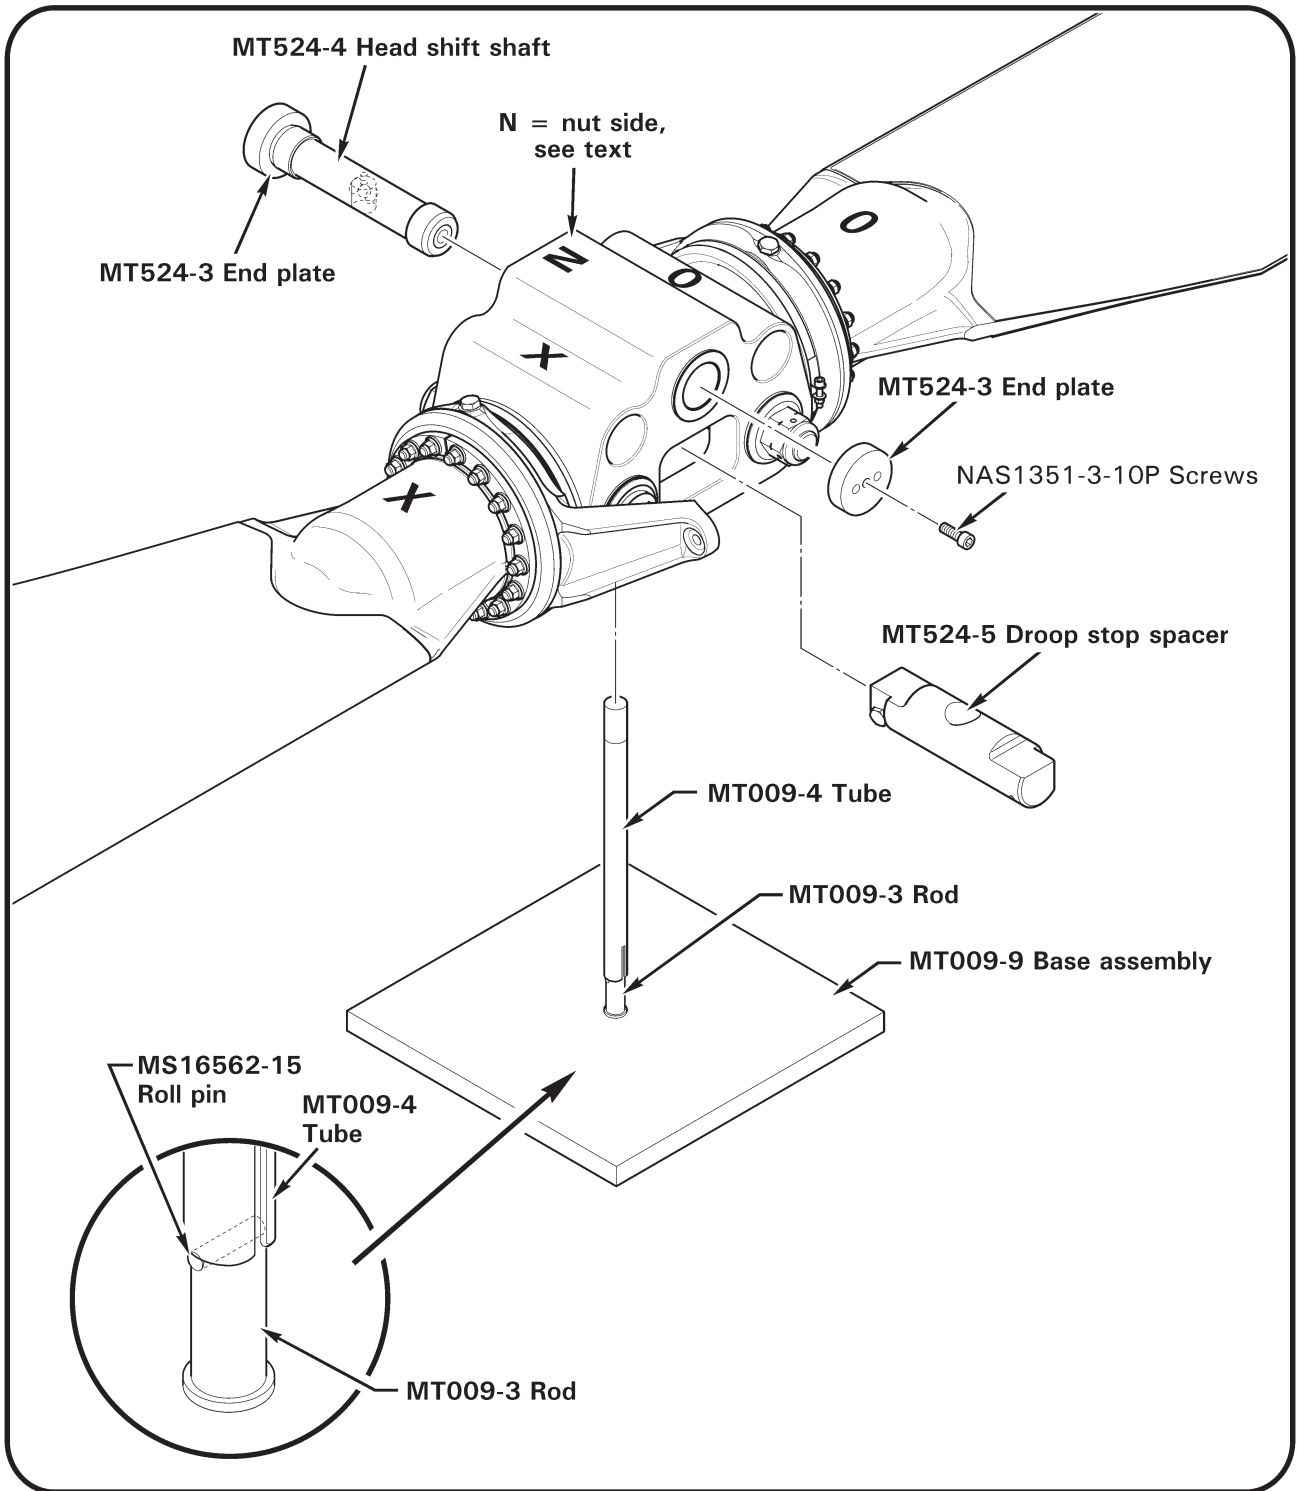

FIGURE 62-8A MT524-2 MAIN ROTOR STATIC BALANCE FIXTURE ASSEMBLY
3. Refer to Figure 62-8A. Install MT524-2 main rotor static balancing fixture assembly in hub as shown. Hoist main rotor assembly and position on MT009-9 base assembly.